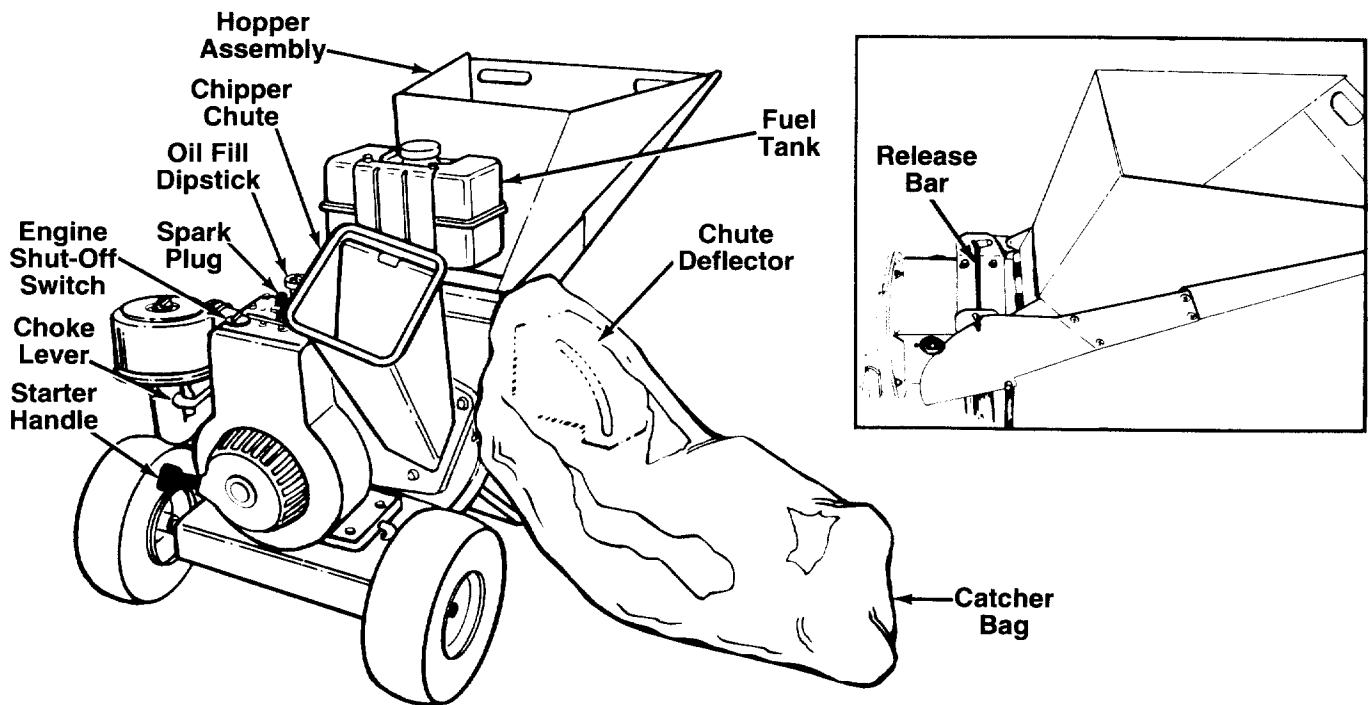

FIGURE 6—Model 247.795861 Shown.
OPERATING CONTROLS (See figure 6)
- Move engine shut-off switch to OFF position. See figure 6.